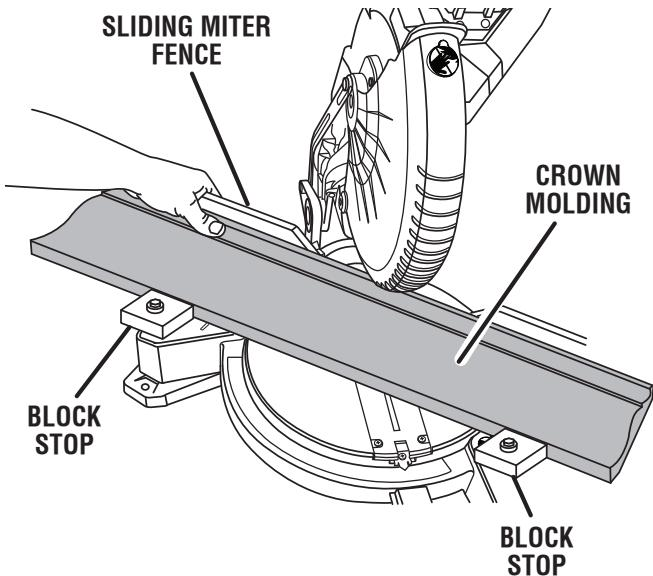

Fig. 37
- Hold the molding as shown in figure 37 with your hand on miter fence and molding.